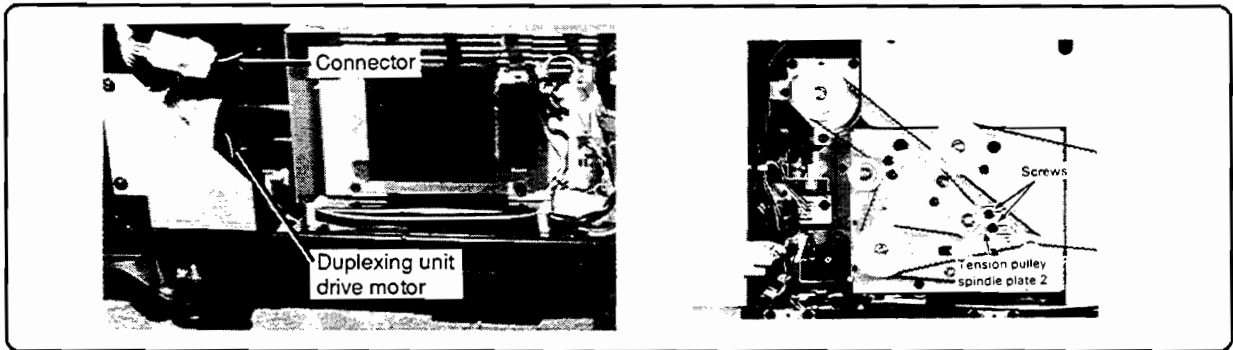

Figure 6-165. Duplex Motor Connector and Belt
2. Unplug the connector of the duplexing unit drive motor (Figure 6-165).
3. Remove the two screws and shift the tension pulley spindle plate 2 to release tension. Remove the drive belt (Figure 6-165).